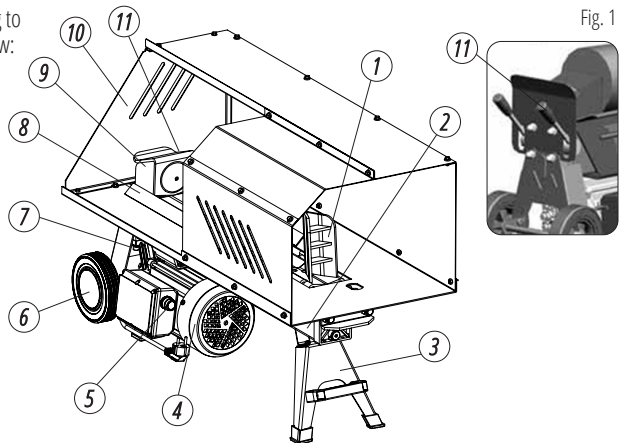

Fig. 1
Check these components according to the following list and Figure 1 below:
5. Always place logs firmly on the main body, lying flat against the log guide plates (Ref A on Fig1). Never attempt to split a log at an angle and make sure the logs will not twist or slip whilst being split.
Ensure the splitting wedge (Ref J on Fig1) and the log pusher (Ref B on Fig1) will make contact with the log squarely at each end.
6. For reasons of safety the log splitter requires a two-handed operation. Switch on the electric motor using the green starting switch (Ref F on Fig1). Using both hands press down on both operating handles (Ref C on Fig1). The log splitter will compress the log, pushing against the splitting wedge. When the log is split release both handles – this will allow the log pusher to retract.